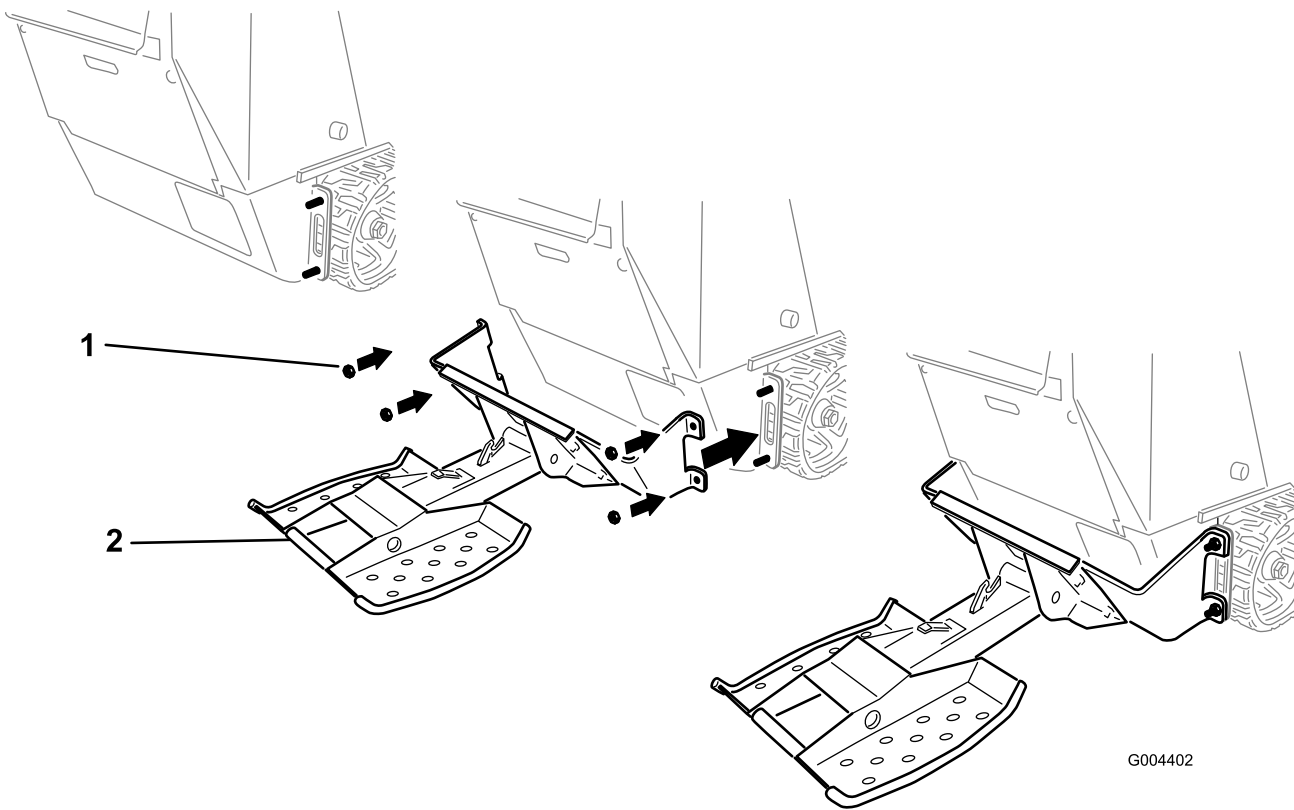

Figure 5
5. Install the mounting brackets (Figure 5) onto the 4 bolts (1/2 x 1-1/2 inches) you inserted earlier, and secure them with 4 flange-head nuts (1/2 inch).